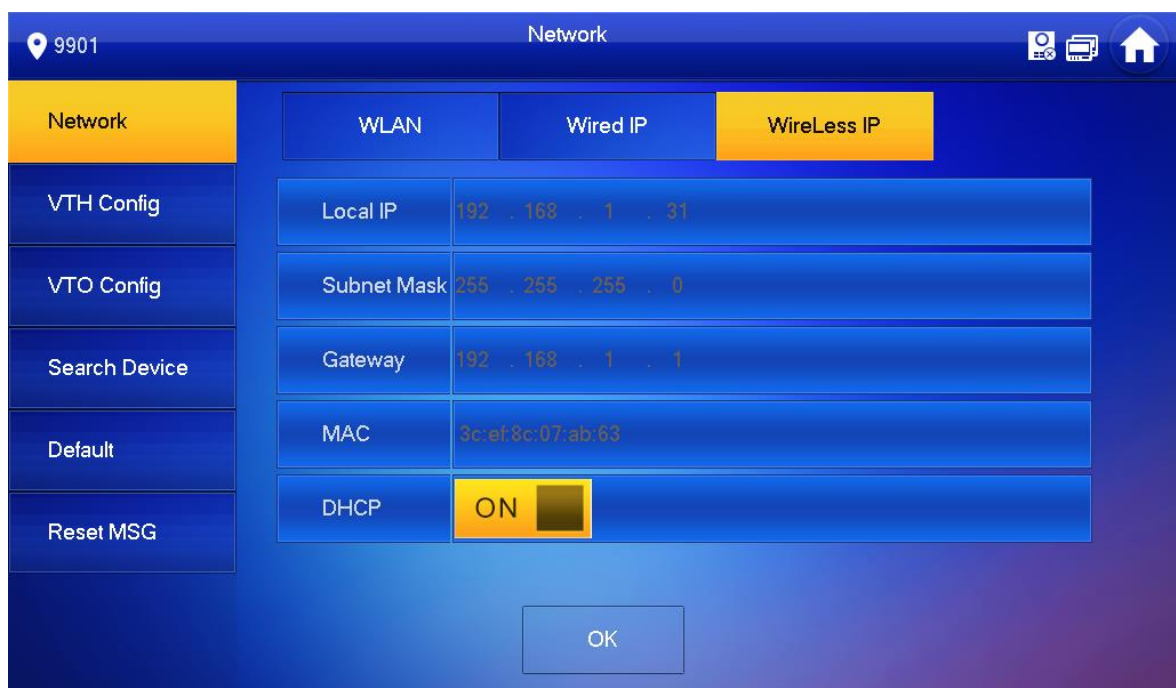

Figure 6-22
- ◇ At "WLAN" interface, select WIFI, click "Wireless IP" tab, press ☐ OFF to enable DHCP function and obtain IP info automatically, as shown in Figure 6-22.